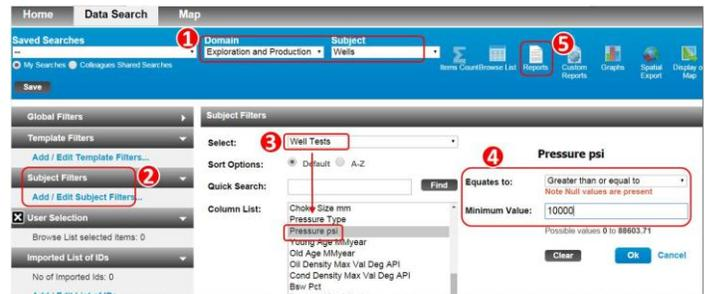
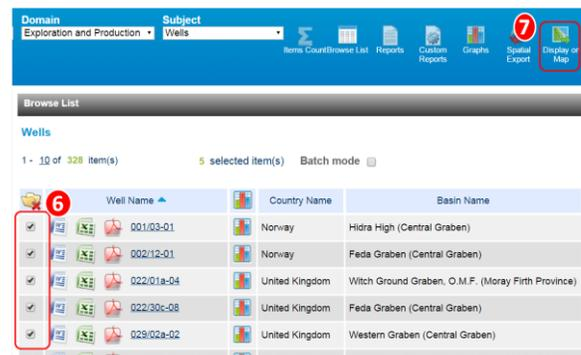

Fig 4-1: Workflow to Search HP Wells
Fig 4-2: Select and Display on Map
- (1) Login to **EDIN** and click **Start a New Data Search**. Set Domain and Subject (Fig 4-1).
- (2) Click **Subject Filters** and **Add/Edit Subject Filters**.
- (3) Choose Well Test from **Select** dropdown list and then choose Pressure psi in **Column List**.
- (4) Choose Greater than or equal to in **Equates to**, and input 10,000 in **Minimum Value**. Then click **OK**.
- (5) Click **Browse List**, the layout will change.
- (6) Select wells to display on **EDIN Map** (Fig 4-2). It's best that you choose wells within the same area.
- (7) Click **Display on Map**, and choose **Display only Selected item(s) on Map**. Then click **Apply** button.